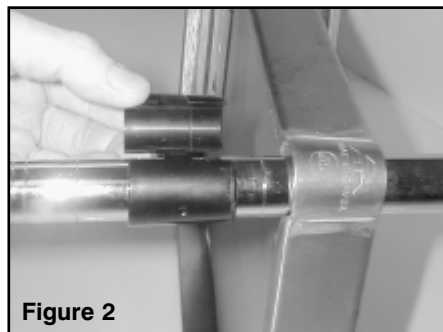

Figure 2
Position Plastic Split Sleeve at desired location (4) required and lower shelf onto split sleeve. (Figure 2)